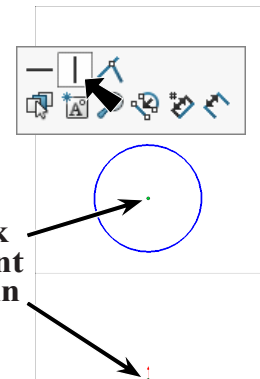

Fig. 9
Step 7. **Ctrl click centerpoint of circle and Origin** to select both, Fig. 9.